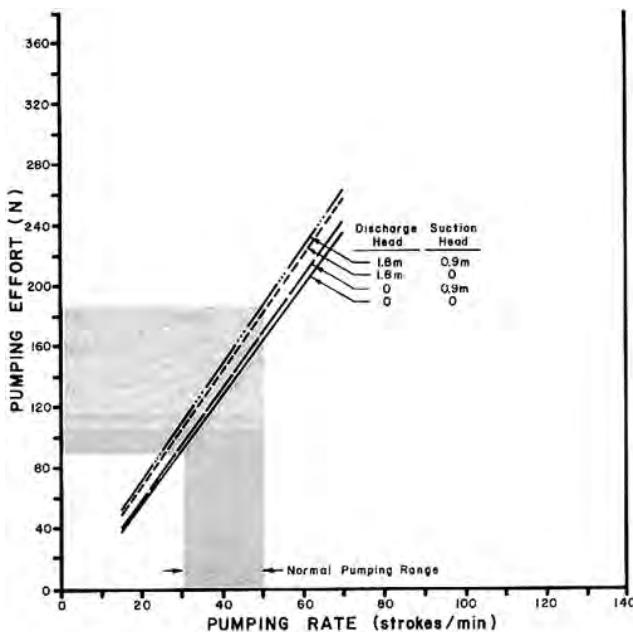

FIGURE 3. Pumping Effort with Diesel Fuel at Various Pumping Rates, Suction and Discharge Heads.
**Pumping Effort:** Pumping effort is the hand force that has to be exerted, perpendicular to the pump handle, to operate the pump. FIGURE 3 shows the hand forces needed at various pumping rates, suction heads and discharge heads. Pumping effort increased with increases in both pumping rates and head. At a pumping rate of 50 strokes per minute, with zero suction and discharge heads, pumping effort was 183 N (37 lb) compared to an effort of 91 N (20 lb) at 30 strokes per minute. At an average pumping rate of 40 strokes per minute, pumping effort increased from 127 N (29 lb) at zero suction and discharge heads to 147 N (33 lb) at suction and discharge heads of 0.9 m (3 ft) and 1.8 m (6 ft), respectively.